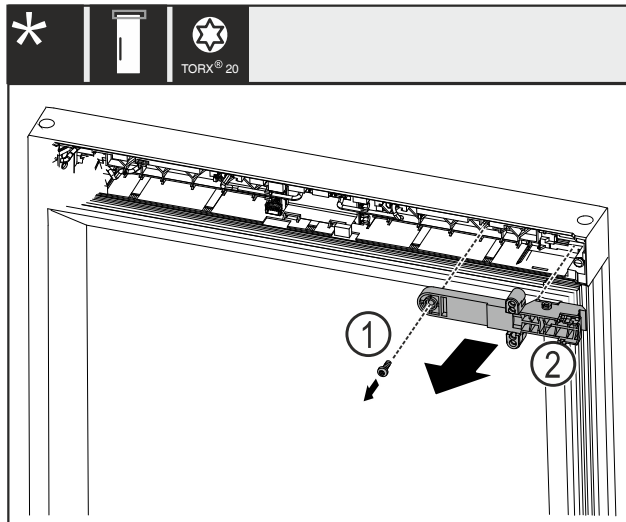

Fig. 17
- ▶ Remove the screw Fig. 17 (1).
- ▶ Remove the lock bracket retainer Fig. 17 (2).